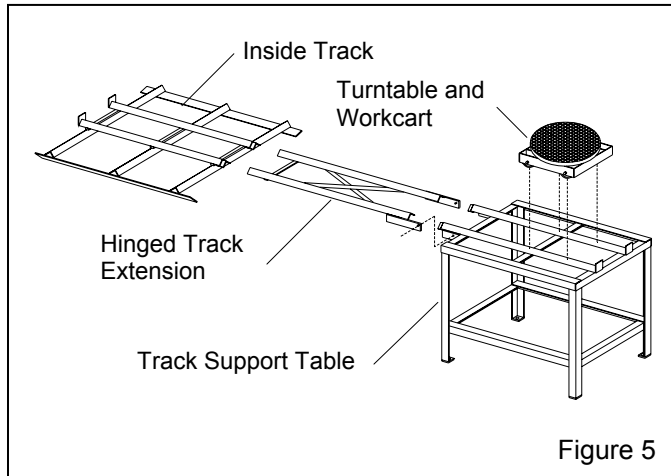

Figure 5
**3.4.1** The components of the turntable and track assembly are shown in Figure 5. The assembly consists of: